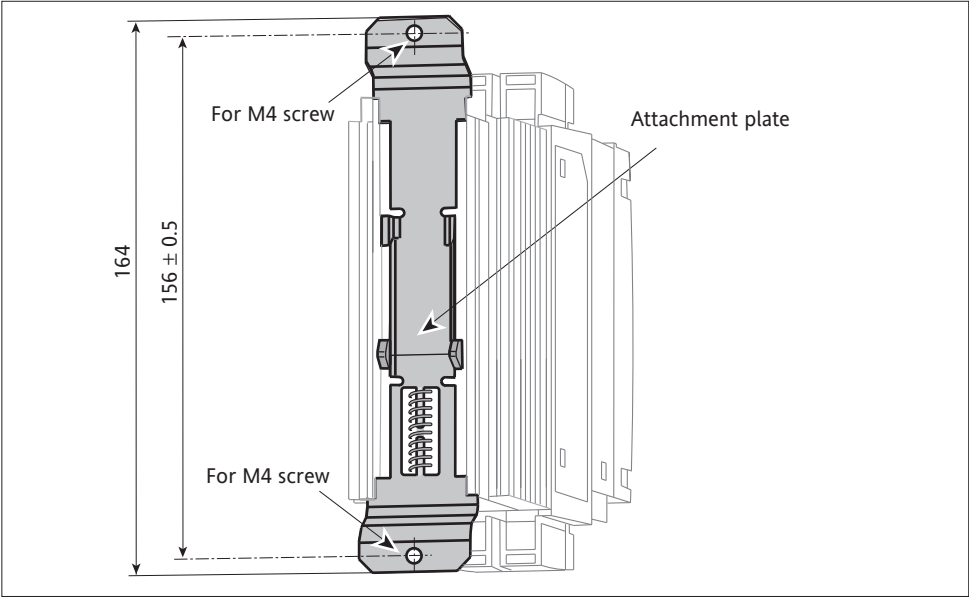

Figure 2-3 Mounting the unit using an attachment plate for bulkhead mounting (16 A to 63 A, rear view)
- attachment holes for bulkhead mounting (figures 2-3 and 2-4).